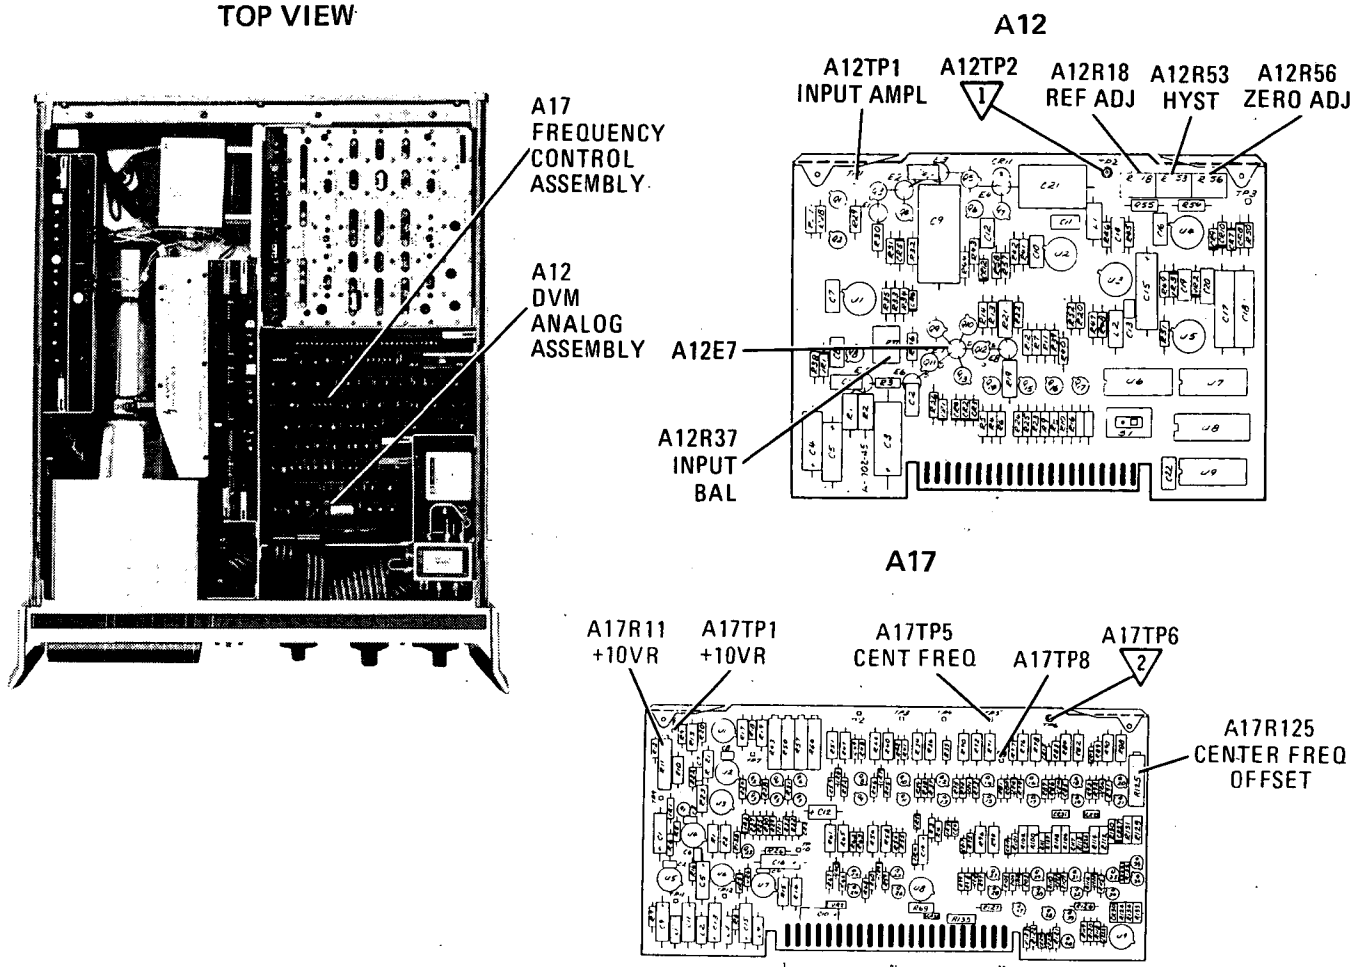

Figure 5-28. +10V Reference and Digital Readout Adjustment Locations
3. Connect digital voltmeter to A17TP1 +10VR and adjust A17R11 +10VR (Figure 5-28) for +10.000 ±0.0002V. If unable to adjust A17R11 for +10V, change factory-selected resistor A17R9*. Decrease in A17R9* decreases voltage.